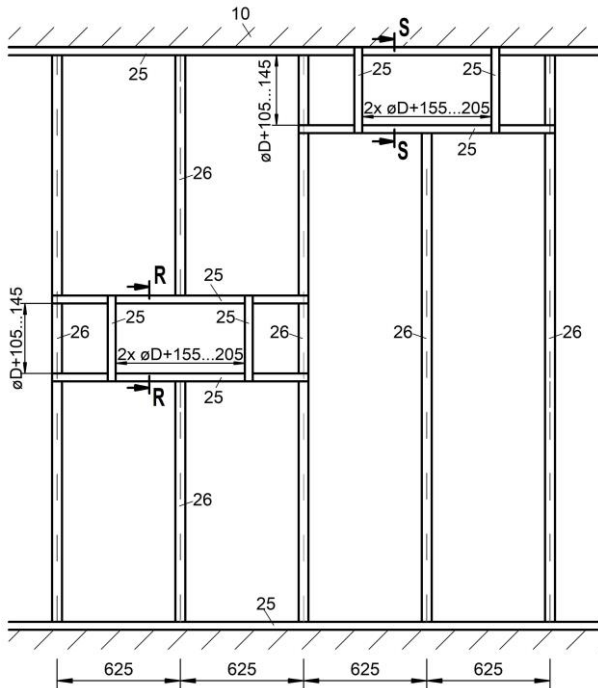

Figure 37: Metal posts plus required exchange parts for the BSK-RPR wet installation at a reduced distance
- Mount the metal posts and the wall in accordance with the specifications of the wall manufacturer and the required exchange parts as shown on Figure 37. Take into account circumferential lining of the reveals with plasterboards (pos. 23.1).
- Insert the BSK-RPR (pos. 1) into the wall recess (operating side: observe the installation dimension of 210 mm). Average out the circumferential annular gaps evenly between the wall and the BSK-RPR. Mount the BSK-RPR with the help of mounting suspensions, etc.
- Insert mortar (pos. 28) into the circumferential gap 40 mm in width between the housing of the BSK-RPR and the wall recess.
- Mount the metal posts and the wall in accordance with the specifications of the wall manufacturer and the required exchange parts as shown on Figure 37. Before attaching the UW-profile (pos. 25) necessary for the circumferential metal profile frame in the ceiling area, a mineral wool strip approx. 50x40 mm (pos. 27.1) must be incorporated in the UW-profile at the ceiling. Take into account circumferential lining of the reveals with plasterboards (pos. 23.1).
- Insert the BSK-RPR (pos. 1) into the wall recess (operating side: observe the installation dimension of 210 mm). Average out the circumferential annular gap evenly between the wall and the BSK-RPR. Mount the BSK-RPR with the help of mounting suspensions, etc.